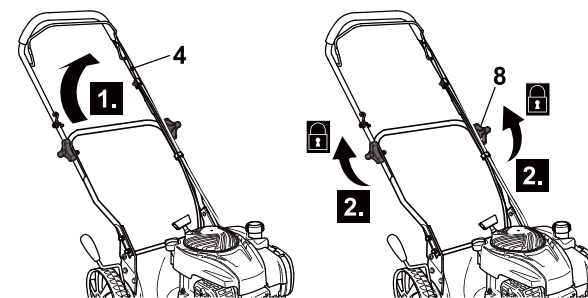

Fig. 5
7. Unfold the upper handle bar (4) and lock the knobs (8) to fix it (Fig. 5). There are 3 positions for height adjustment of the handle.